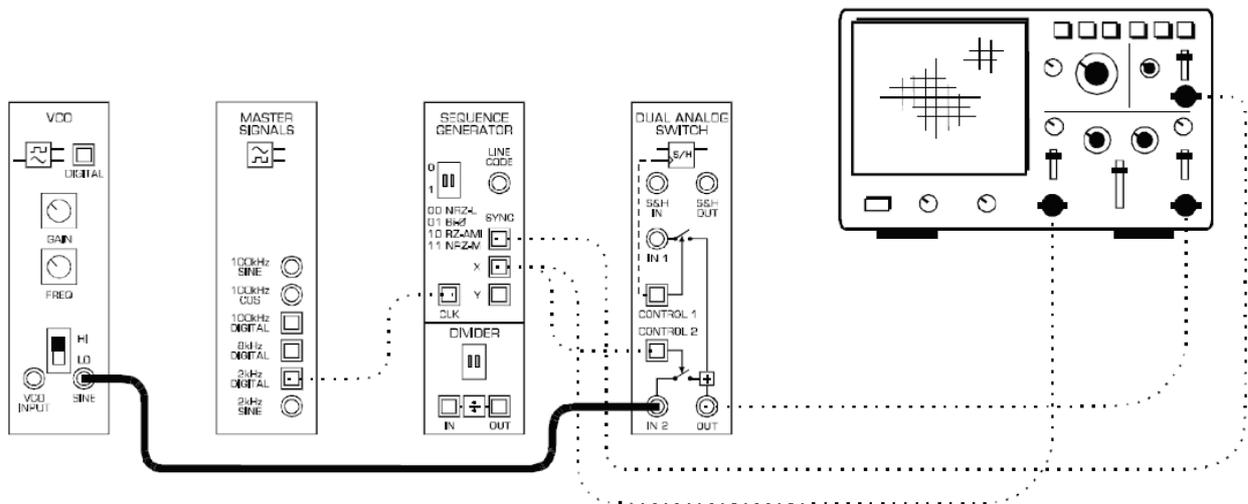
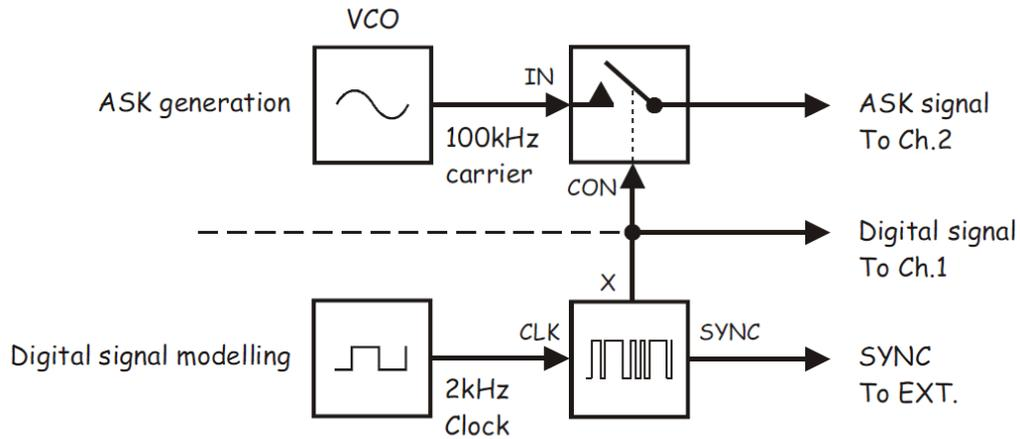

Figure 4: the set-up for a practical ASK signal generation
Figure 5: block diagram of Figure 4
3. Modify the set-up as shown in Figure 4 below.
The set-up in Figure 4 can be represented by the block diagram in Figure 5 below.